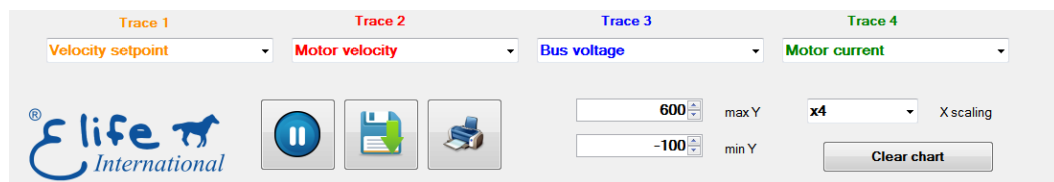

Figure 4.3: Telemetry Panel allows you to plot and log one or more telemetry data.
1. Select one or more (max four) telemetry data that you'll want to observe from *TRACE 1*, *TRACE 2*, *TRACE 3* or *TRACE 4* list (Figure 4.3).